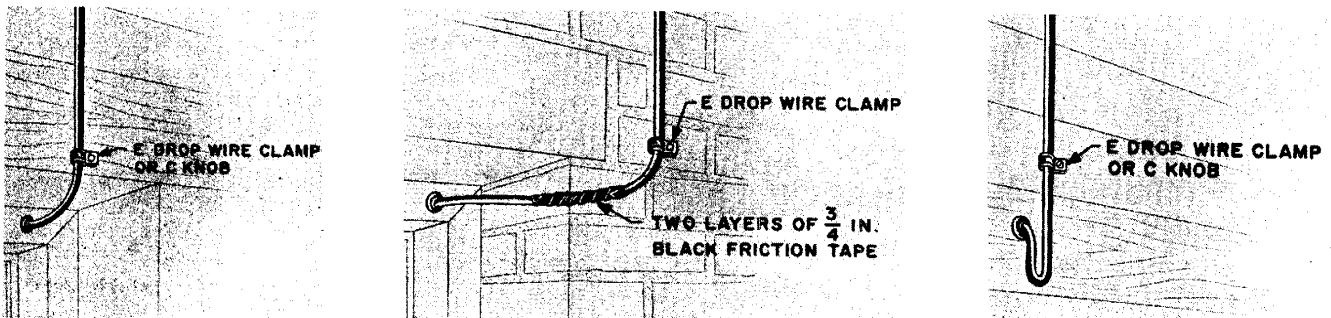

Fig. 16 -- Last Attachment, Building Entrance Slopes Upward from Outside
12.03 Fig. 16 and 17 illustrate typical arrangements of last attachments.